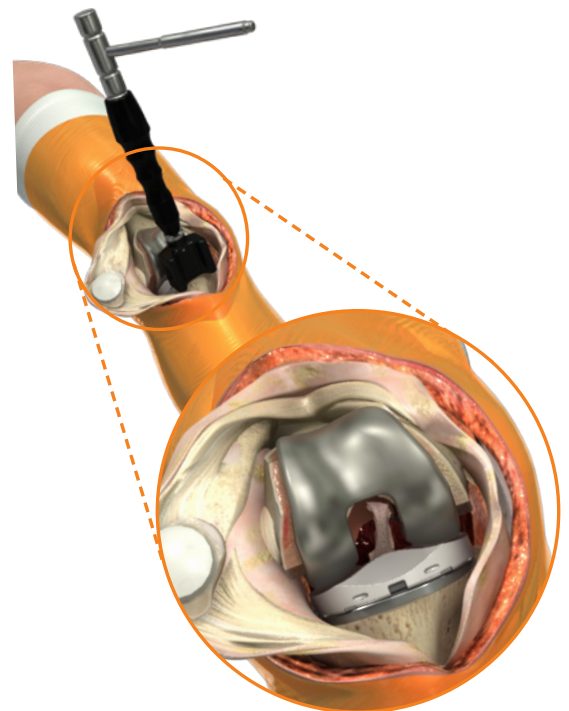

Figure 47
7. The Articular insert is locked into position using the Modular Tibial Impactor. This is best done when the leg is flexed to around 20-30 degrees and impacting on the anterior surface of the insert (Figure 47).